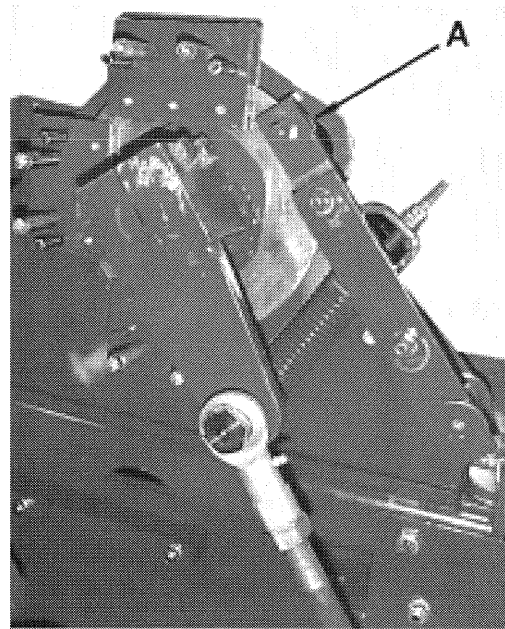
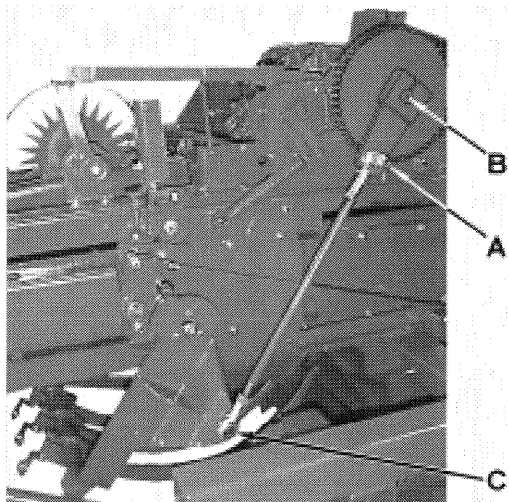

Fig. 17
Fig. 16
A. With needles in the home position, set the needle yoke drive bolt "A," Fig. 16, 1/4" to 1/2" past center between "B" and "C." To obtain this setting, adjust saddle roller "A," Fig. 17, on the opposite side of the knotter.